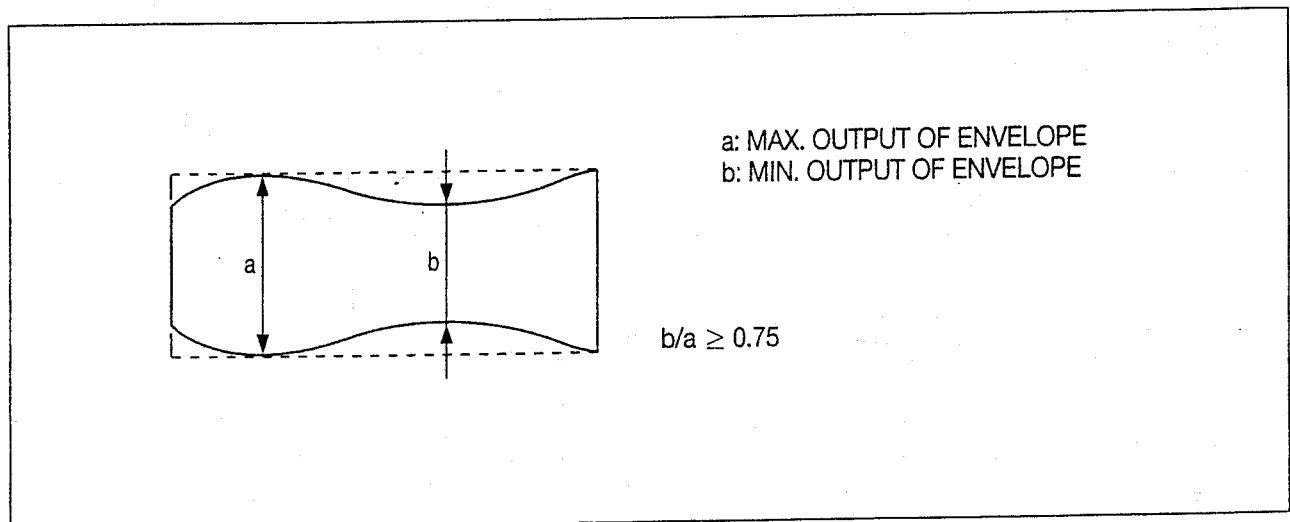

Fig. 5-6
- B. Adjust the S, T GUIDE ROLLER (refer to Fig. 5-1 ④, ⑧) until the ENVELOPE waveform at the entrance and the exit sides is as shown in Fig. 5-6.